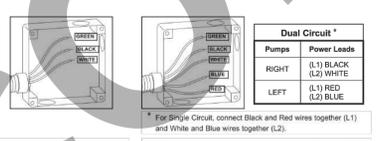

Figure 10. VacStar Electrical Box Connection
- VacStar 20, 50, 50H, 80, 80H must be wired directly from an electrical box that complies with local electrical codes to the VacStar's Electrical Connection Box. See Figures 10.